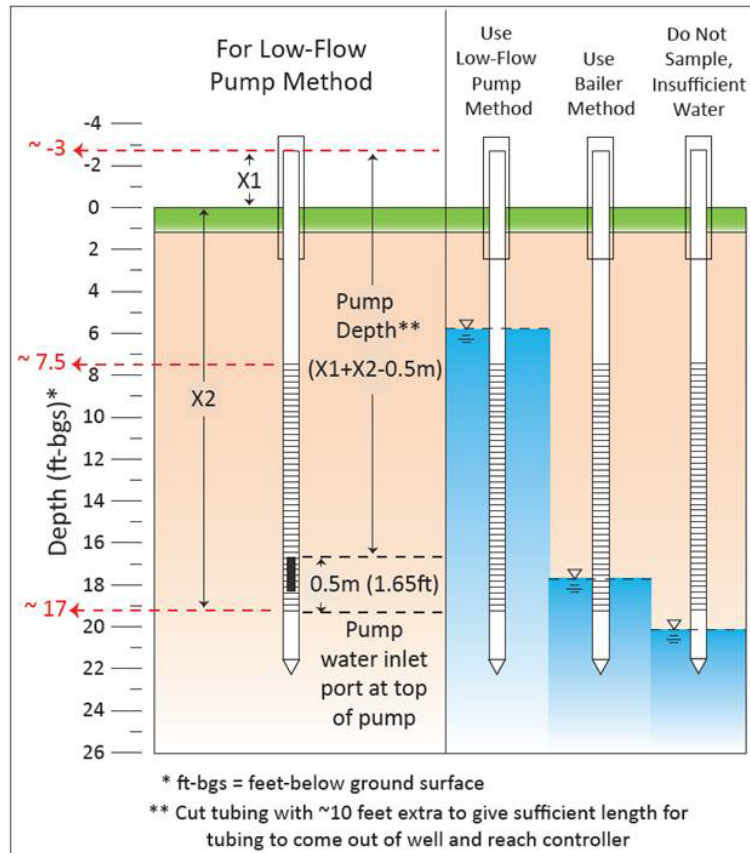

Figure 10. Procedure to determine which sampling method to select and the length of tubing for the pump in the well.
The following sections provide specific details for each step summarized above. Figure 10 provides a schematic showing the logic process for determining minimum water depth for obtaining samples, which method to select, and the length of tubing required for each well.
This method is used when the elevation of the water in the well is more than 1.65ft (0.5m) greater than the bottom of the screened interval of the well as illustrated in Figure 10 above.
1. Cut Tubing to Correct Length. The tubing used to sample the groundwater wells is dual bonded tubing with one line for air delivery to the pump and one line for water discharge from the pump. Tubing used to sample a well is dedicated to that specific well and should not be used to sample other wells. The first time a well is sampled the tubing will need to be cut to the correct length. The top of the pump is positioned in the well at 0.5m above the bottom of the screened interval of the well; see Figure 10 above for details. Well construction logs should be used to determine where the screened interval of the well is relative to the ground surface; the set of well construction logs are at each Domain Office for sites in that Domain.
- a. Use Figure 10 above to determine the length of tubing to hang the pump in the well at the specified depth. Make sure to add an extra 7-10 ft to the length of the tubing so that the tubing can extend from the top of the well to the ground surface at a location suitable for positioning the pump controller. From the example in Figure 10 above, the length of tubing required for the well is $(17 + 3 - 1.65)$ ft + an extra 7-10 ft to get the tubing to a sufficient location on the ground surface. The total length required then for this particular well is about 25-28 ft.
The bailer tube method is a second, less robust, method for obtaining samples from wells. This method is applied for wells where the elevation of the water level in the well is less than 0.5m above the bottom of the screened interval of the well as shown in Figure 10.
Where the “Total Well Depth” and “Depth to Water” are measured from the top of the PVC well casing and “r” is the radius of the well (2” diameter, 1” radius, $r^2 = 0.00694 \text{ ft}^2$). As an example Figure 10 above for the bailer tube method shows a water level in the well of ~ 17.75 ft and a total depth of ~22.00 ft, with an assumed well diameter of 2-in, this yields a well volume of $(22.00 - 17.75)\text{ft} \times \pi \times (0.00694)\text{ft}^2 = 0.0926$ cubic ft of water, or about 0.70 gallons of water, and three well-volumes equal to 2.1 gallons of water. **Note:** 1 cubic foot = 7.48 gallons.